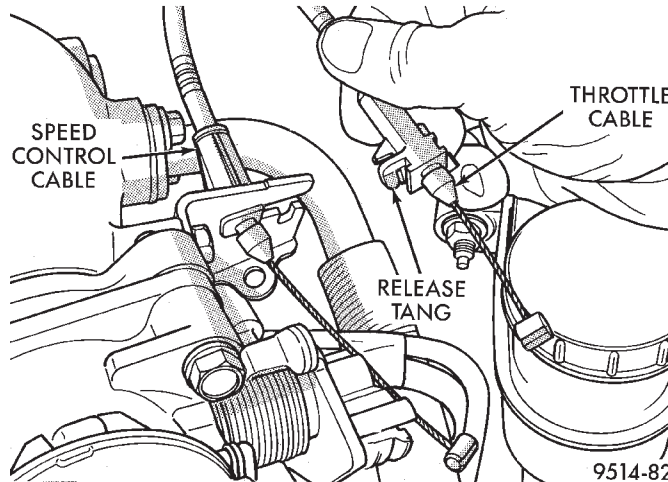

Fig. 25 Throttle Cable Attachment
(11) Squeeze retainer tab on throttle cable and slide cable out of bracket (Fig. 25).
(12) Slide Speed control cable out of bracket, if equipped (Fig. 25).